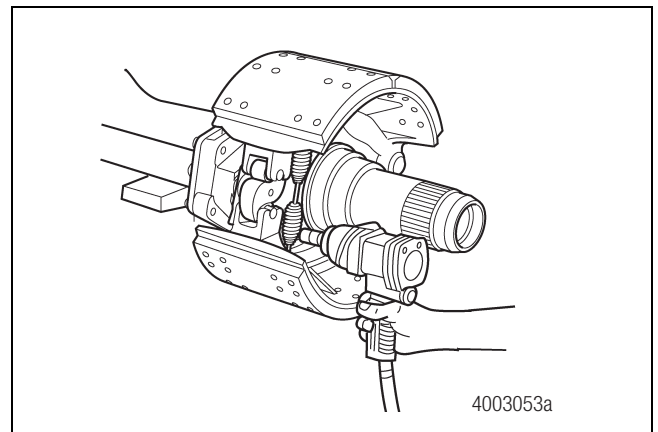

Figure 5.17
- Install and tighten the brake spider-to-housing bolts according to their length. Figure 5.17.